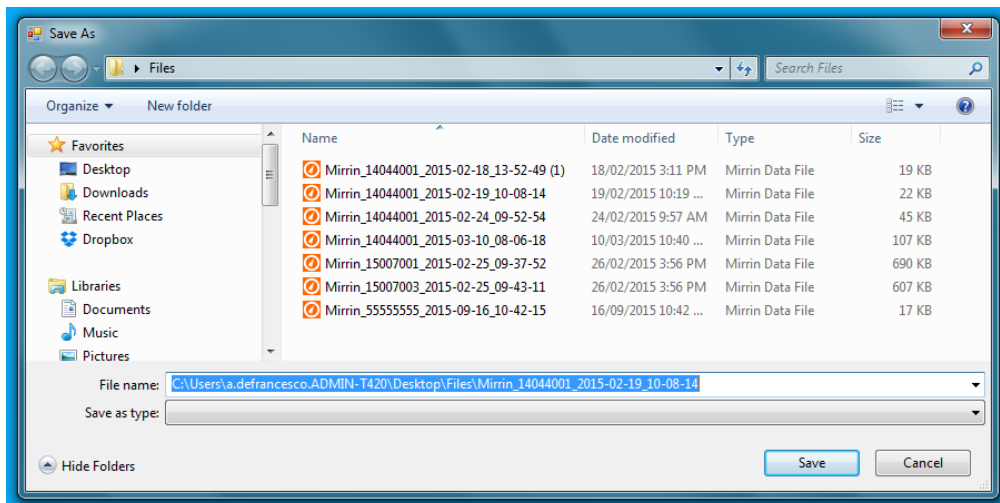

Figure 2.12.4.1
Step 1: Click on the 'Export PDF' button. A browsing window opens as shown in figure 2.12.4.1.